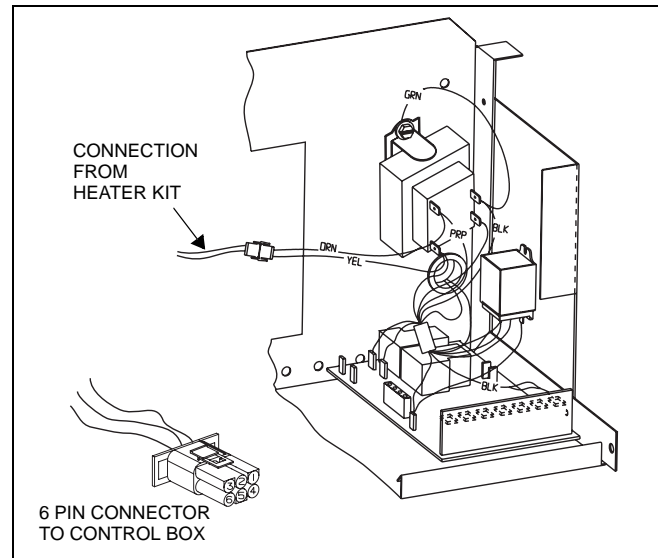

FIGURE 3: 460 Volt Control Box
6. **For 460 volt heaters:** Connect the male half of the 6 pin connector to the appropriate connector on the control board. Connect the female half of the heater 2 pin socket to the male half of the connector in the unit. See Figure 3.